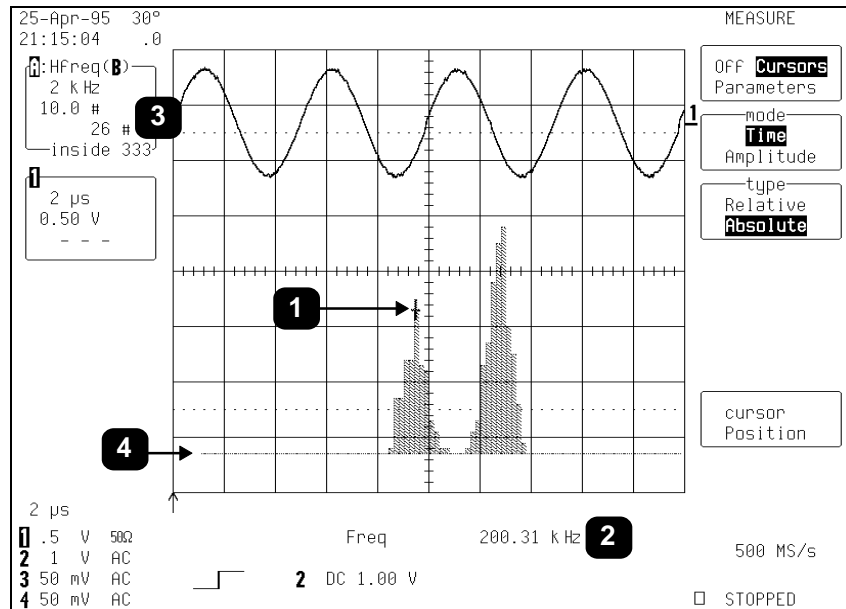

Figure 6.19
The scope's measurement cursors are useful for determining the value and population of selected bins. Figure 6.19 shows the "Time" cursor (❶) positioned on a selected histogram bin. The value of the bin (❷) and the population of the bin (❸) are also shown.